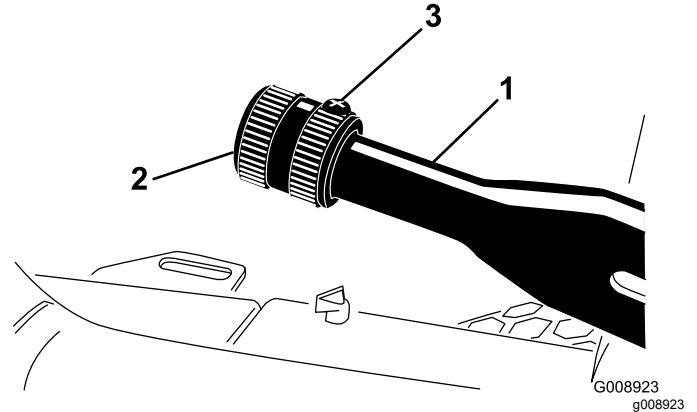

Figure 79
- Loosen the setscrew securing the knob to the parking-brake lever (Figure 79).